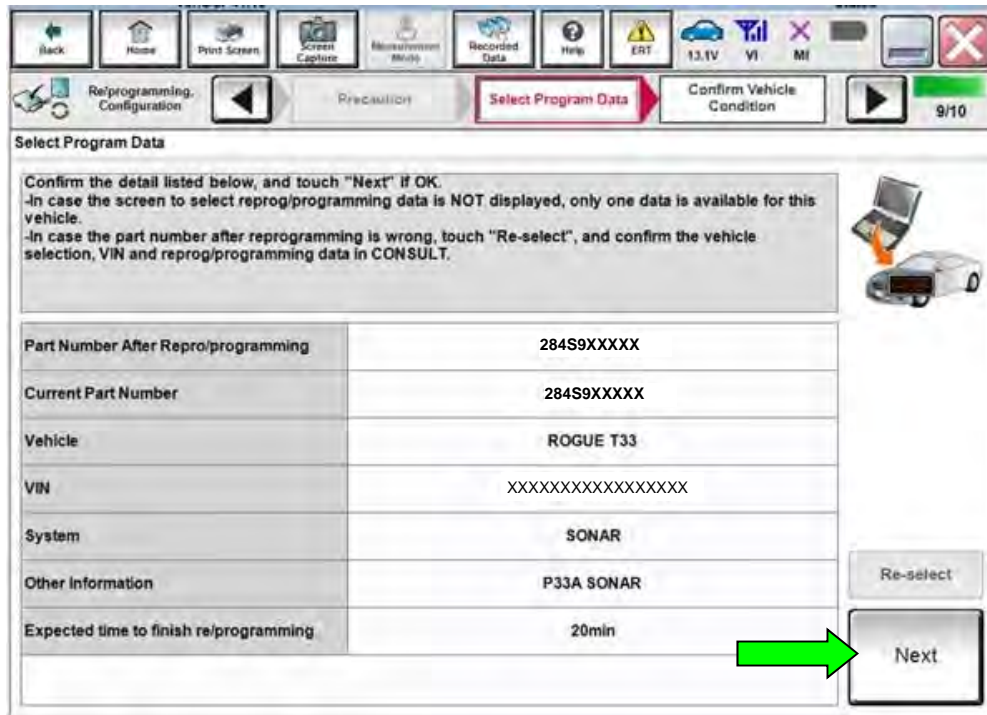

Figure 17
30. If the screen in Figure 17 displays, select **Next**. If the screen in Figure 17 does not display, continue to step 31 on page 14.